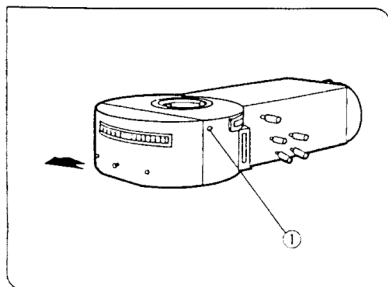
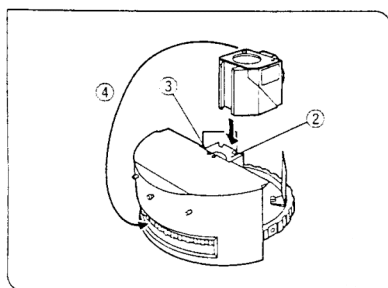

Fig. 1
Fig. 2
The design of reflected light fluorescence microscopes features dichroic mirrors which direct the excitation light through the objective, to the area of the specimen, thus providing efficient illumination. (Fig. 1)
The spectral characteristics of the dichroic mirror when it is positioned at an inclination of 45° to the optical axis of incident light is shown in Fig. 2. Because a cross-over exists between transmittance and reflectance, it is necessary to use an appropriate combination of exciter and barrier filters in conjunction with the dichroic mirror. This is necessary to achieve a good contrast image through fluoreochrome excitation in the specimen, at the desired wavelength.
(Figs. 1, 2, 3)
1. Loosen the clamping screw (1) at the right of the vertical illuminator using the Allen (hex) wrench provided with the microscope frame. (Fig. 1)
2. Pull out the turret in the direction indicated by the arrow, then turn the turret so that the rotating cube dovetail mount (2) points upward and loosen the cube clamping screw (3). (Dummy cubes are mounted in three of the four cube positions. When you wish to use only one cube, mount it in the remaining empty position. When using two or more cubes, loosen the clamping screw (3) and remove the dummy cube(s) in the direction indicated by the arrow, and then mount the cube(s) in its place.)
3. Hold the cube to be mounted with the index side facing upward and slide it all the way onto the dovetail mount. Then tighten the cube clamping screw (3). (Tighten all four cube clamping screws.)
4. Remove the cube magnetic index sticker (4) and affix it to the turret. (Fig. 2)
(Fig. 1)